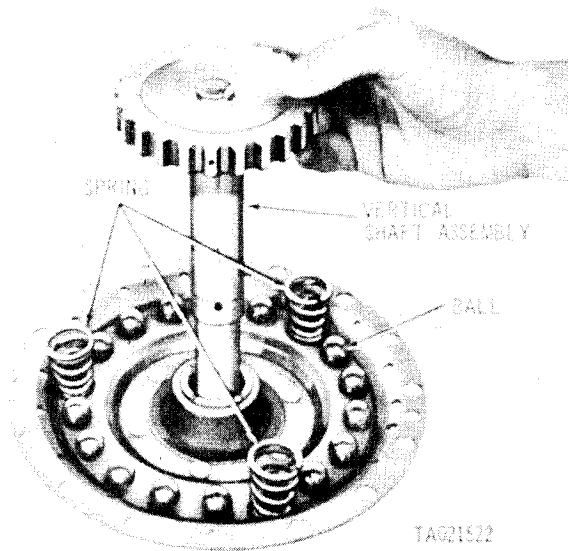

Figure 3-221. Removing or installing fan drive vertical drive shaft, balls, and springs from fan drive hub.
(2) Remove fan drive vertical shaft (fig. 3-221) from hub and remove three clutch springs and fifteen